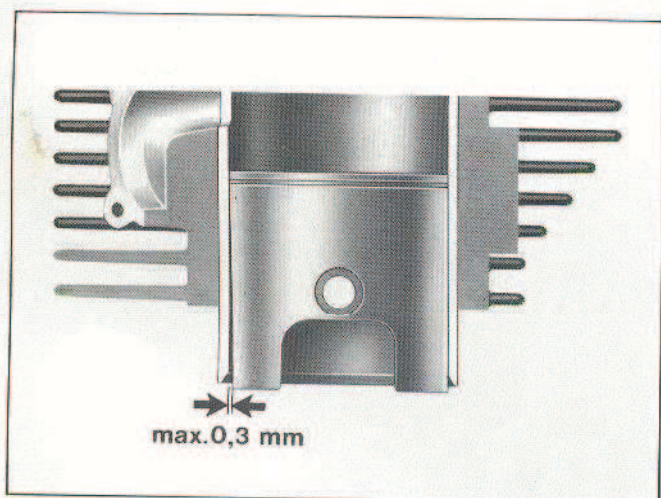

Fig. 26.3
B. When the piston skirt is worn down so that a measurement of approx 0,3 mm can be taken as illustrated in fig. 26.3, scrap the piston.